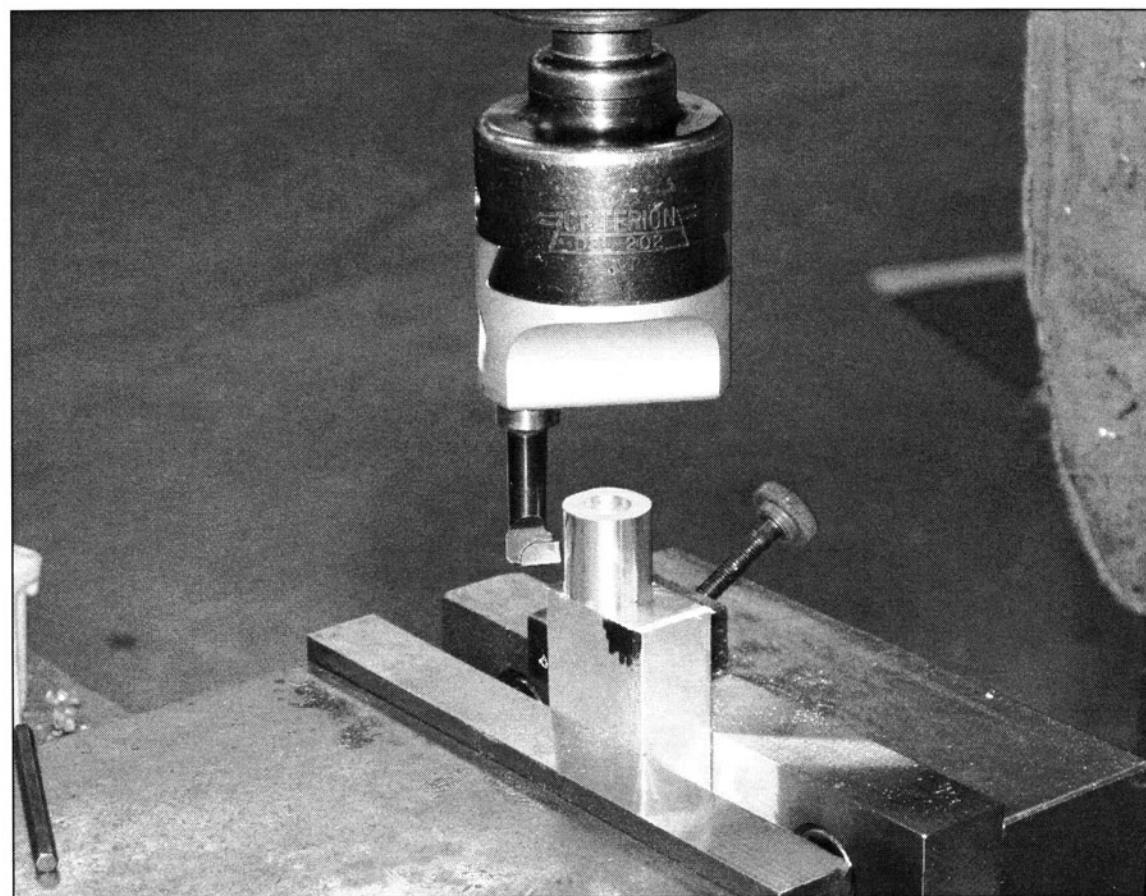

FIGURE 3-34 Sometimes you can avoid time consuming setups in a lathe by reverse boring parts in a milling machine.
48. *Reverse bore a boss in a milling machine to avoid making a time consuming setup in a lathe. (See Fig. 3-34)*